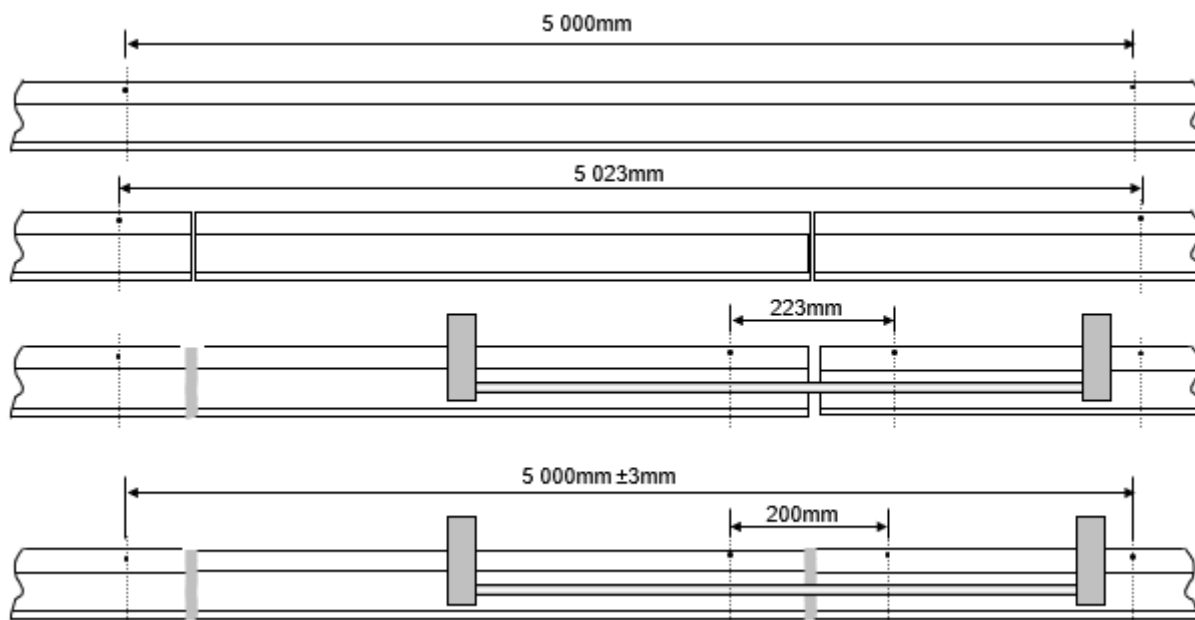

Figure 5 - Adjustment around rail tensors
8. Transfer the change in measurement to new punch marks across the remaining gap and within the tensors. (See Figure 5).